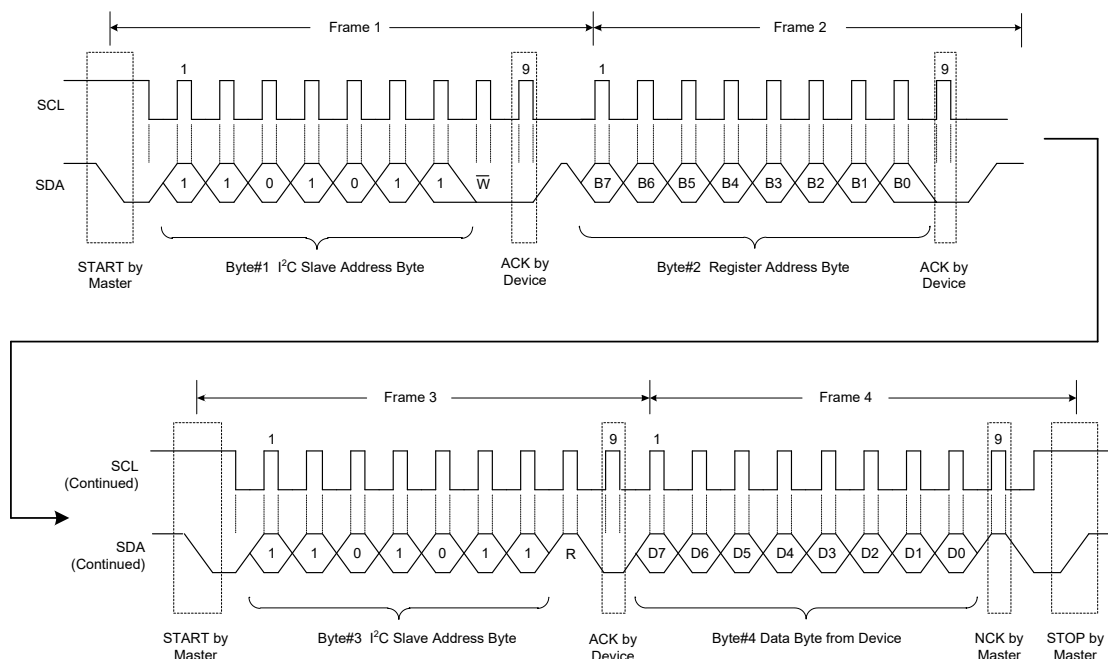

Figure 19. A Single Read Transaction
**READ:** If the master wants to read a single register (Figure 19), it sends a new START condition along with device